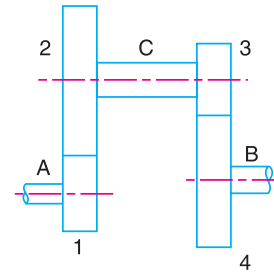

Fig. 13.32
3. In a reverted gear train, as shown in Fig. 13.32, two shafts A and B are in the same straight line and are geared together through an intermediate parallel shaft C . The gears connecting the shafts A and C have a module of 2 mm and those connecting the shafts C and B have a module of 4.5 mm. The speed of shaft A is to be about but greater than 12 times the speed of shaft B , and the ratio at each reduction is same. Find suitable number of teeth for gears. The number of teeth of each gear is to be a minimum but not less than 16. Also find the exact velocity ratio and the distance of shaft C from A and B .